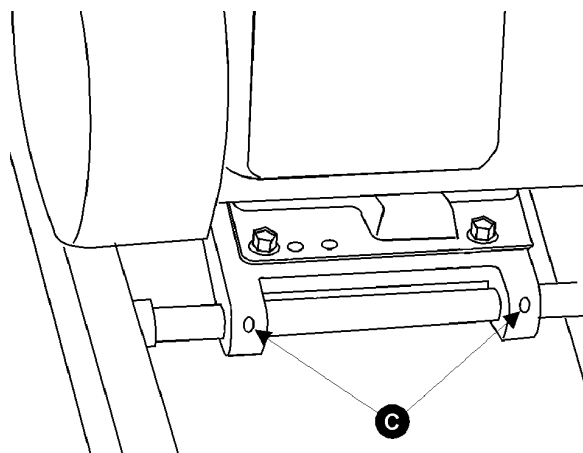

Figure 9
- Using a straight edge, align the motor pulley (A, Fig. 8) and cutterhead pulley (B, Fig. 8). The motor plate can be moved for alignment by loosening the set screws (C, Fig. 9) in the motor plate.